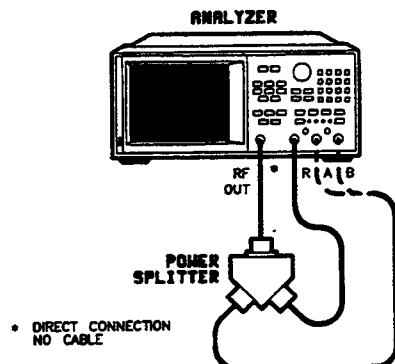

Figure 15. Sampler Diode Bias Measurement Setup
1. Connect the equipment as shown in Figure 15: to adjust inputs R or A, apply RF power to inputs R and A; to adjust input B, apply RF power to inputs R and B.